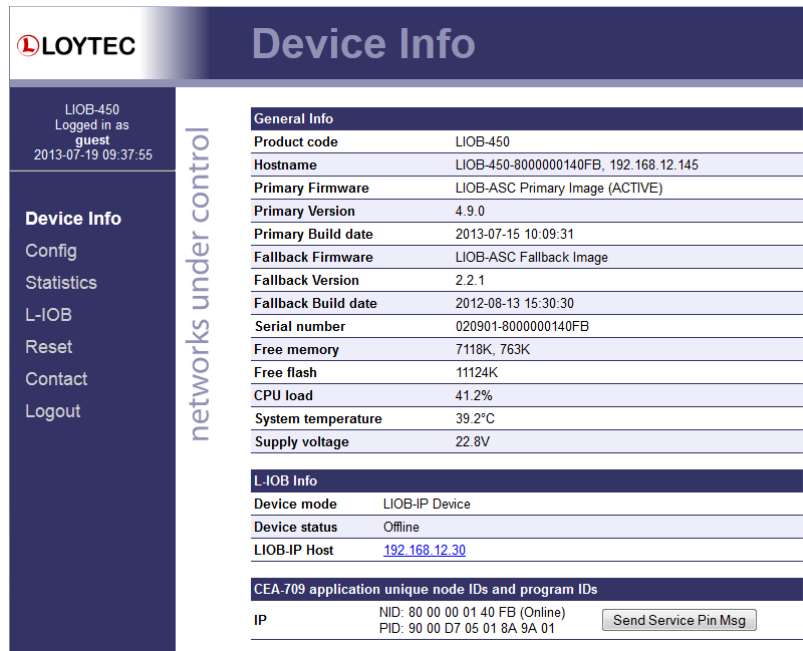

Figure 34: Device Information Page
5. The device information page should appear as shown in Figure 34.